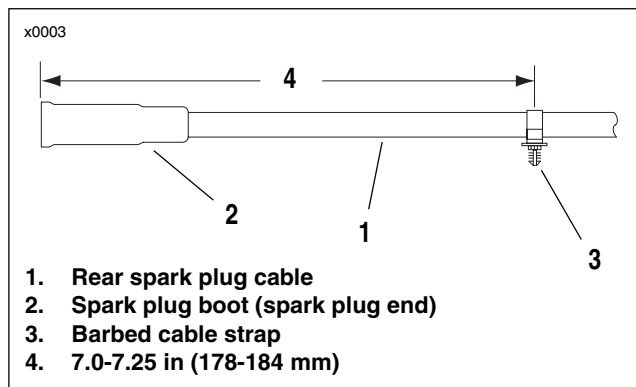

Figure 7-11. Rear Spark Plug Cable and Cable Strap
3. See Figure 7-11. Install **new** barbed cable strap (3) onto spark plug cable (1), 7.0-7.25 in (178-184 mm) from tip of spark plug cable boot (2), orienting cable strap so that spark plug cable is above mounting boss on caddy latch clip when barbed prong on cable strap is inserted in hole in boss. Press cable strap barbed prong firmly into hole in caddy latch clip mounting boss.